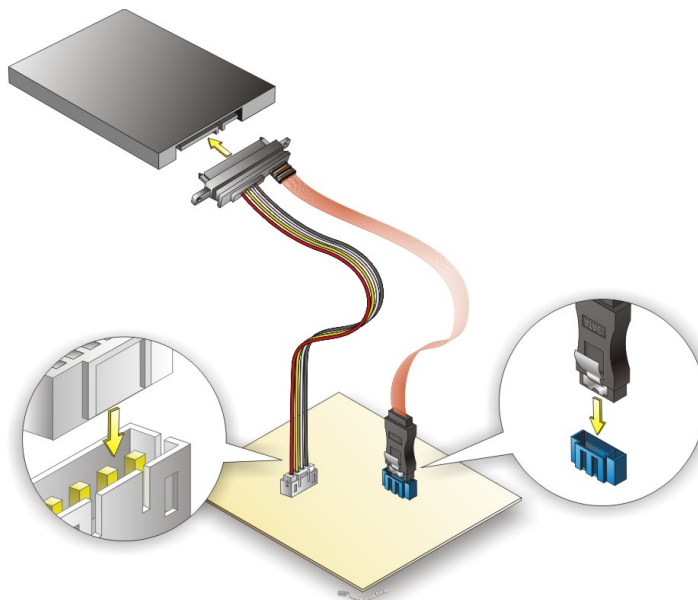

Figure 4-12: SATA Drive Cable Connection
Step 2: **Insert the cable connector.** Insert the cable connector into the on-board SATA drive connector and the SATA power connector. See **Figure 4-12**.
Step 3: **Connect the cable to the SATA disk.** Connect the connector on the other end of the cable to the connector at the back of the SATA drive. See **Figure 4-12**.